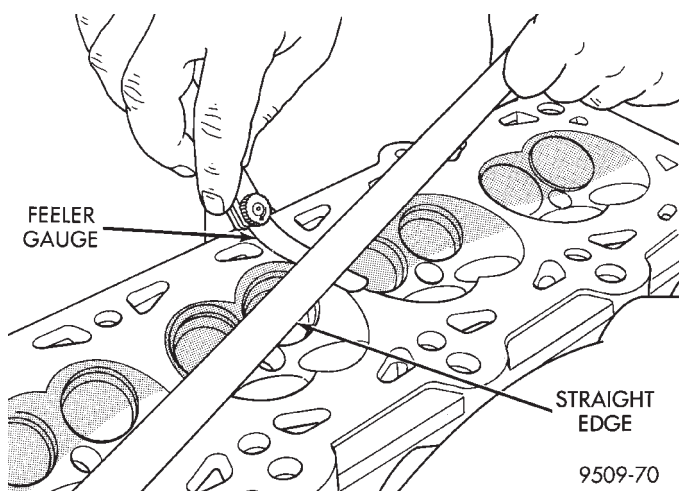

Fig. 88 Checking Cylinder Head Flatness
- (1) Cylinder head must be flat within 0.1 mm (0.004 inch) (Fig. 88).
- (2) Inspect camshaft bearing journals for scoring.